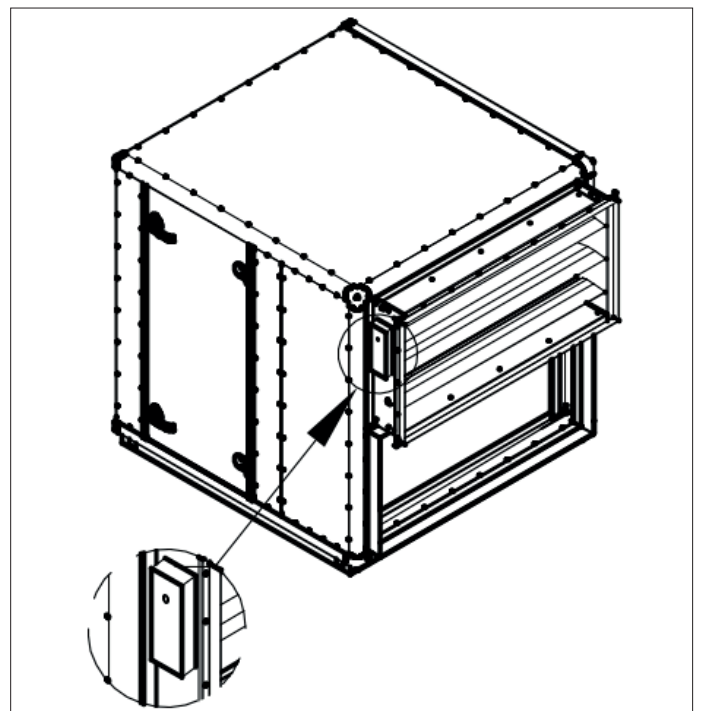

Fig. 56. Start-up with damper motor
- When making rotary inverter connection, use the cable supplied by the factory, see Fig. 56.